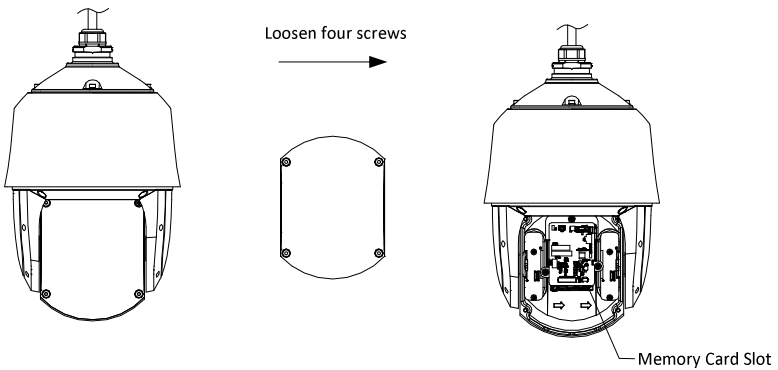

Figure 2-2 Memory Card Slot
- Refer to Figure 2-2 for more information about the memory card slot.